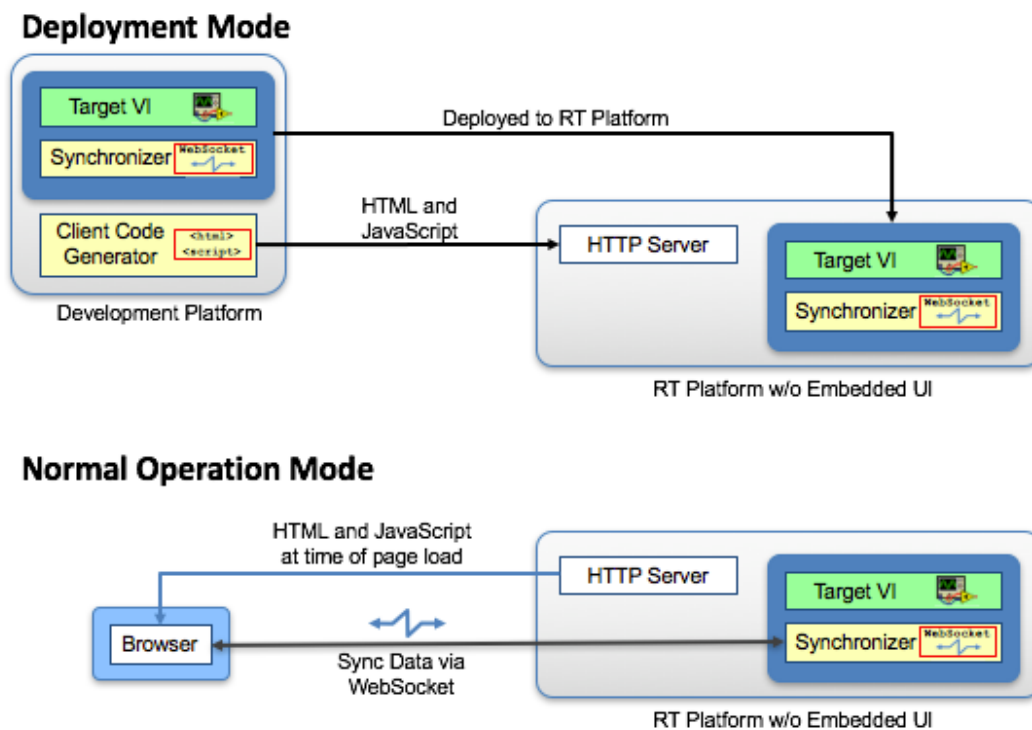

Figure 3.1. LabSocket-E System Overview
LabSocket-E operates in two modes (Figure 3.1). In “Deployment” mode, the developer uses the **Client Code Generator** tool on the development PC to automatically create HTML and JavaScript (JS) code representing the Target VI front panel and a binary configuration file. The Generator is then used to deploy the HTML and JS code, other browser support files and the configuration file to the Real-Time (RT) platform.